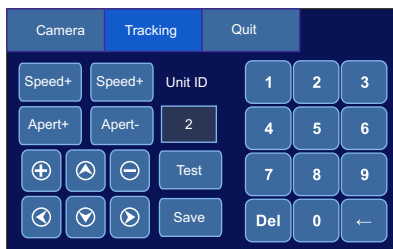

Figure 4.26
Tracking: Use this section to access and edit the advanced camera tracking features of the system. (See Figure 4.26)
Step 4. Use the keypad to enter the number into the unit ID section. Set the position you want to track using the Up ▲ / Down ▼ / Left ◀ / Right ▶ keys as shown in Figure 4.26. After setting up, press the "Save" button. The unit ID will automatically increase by one.